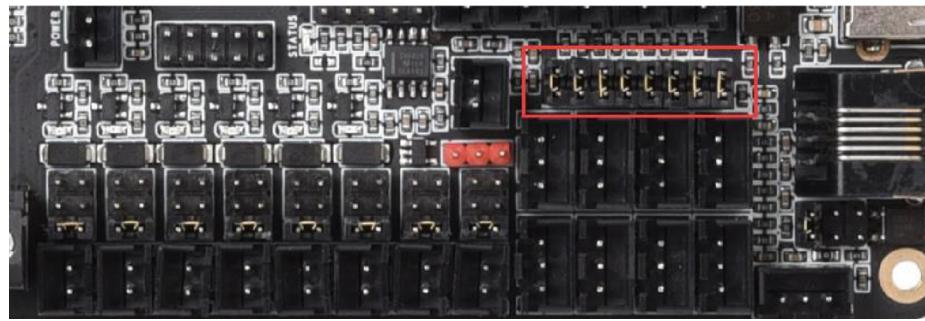

Figure 3: Jumpers enabling 'stallguard' feature of motor drivers to be used in place of traditional limit switches.
- Adjust the jumpers near the RJ45 port to enable the stallguard endstop feature on the TMC5160T. These jumpers short the diagnostic output of the stepper drivers to the inputs of the endstops, allowing the stepper driver's back EMF sensing to replace the role of a traditional limit switch. Configured in Figure 3.